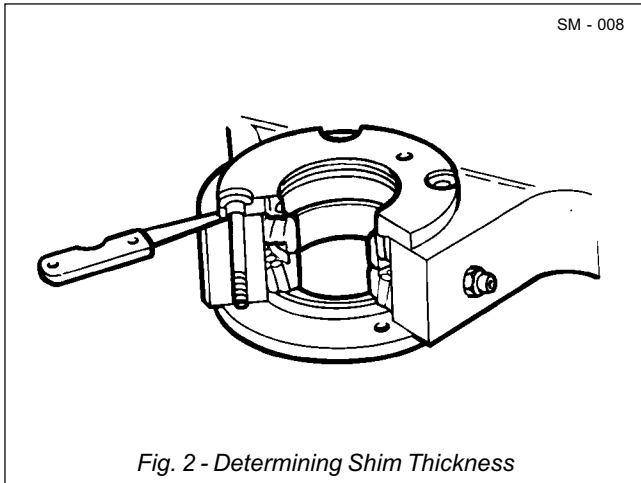

Fig. 2 - Determining Shim Thickness
5. Using Extreme Pressure Lithium Complex No. 2 grease (23), pack bearing assemblies (30), including end faces, and install bearings.
6. Place inner seal housings (33 & 35) temporarily in position and secure with bolts (47) and washers (45). Tighten bolts (47) to a torque of 16 Nm (12 lbf ft).
7. Using feeler gauges, as shown in Fig. 2, measure the dimension between the inner pivot faces and seal housings (33 & 35). Measure at 3 positions equally spaced around seal housings and determine average dimension, this is the size of shims (38) required.
8. Remove bolts (47), washers (45) and inner seal housings (33 & 35).
9. Install shims (38) as calculated at Step 7, reinstall inner seal housings (33 & 35) and secure with bolts (47) and washers (45). Tighten bolts (47) to a torque of 94 Nm (68 lbf ft).